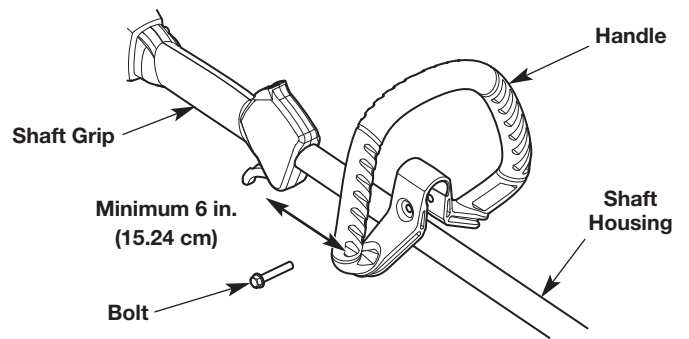

Fig. 2
1. Push the handle down onto the shaft housing (Fig. 2). The bolt hole in the handle should be to the right.
2. Insert the bolt into the bolt hole and push it through (Fig. 2). Tighten the bolt with a 3/8" socket, but do not tighten the bolt completely.
3. While holding the unit in the operating position (Fig. 9), move the handle to the location that provides the best grip. Place it a minimum of 6 inches (15.24 cm) from the end of the shaft grip (Fig. 2).
1. Loosen the bolt with a 3/8" socket (Fig. 2).
2. While holding the unit in the operating position (Fig. 9), move the handle to the location that provides the best grip. Place it a minimum of 6 inches (15.24 cm) from the end of the shaft grip (Fig. 2).